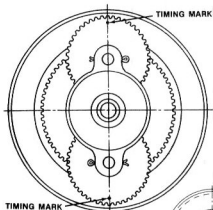

Fig. 1
- (A) Unscrew 4 screws on cover and remove cover.
- (B) Note the proper timing mark position of the two planet gears. See Figure 1 page 8.
- (C) Back-out the square head set screw to permit the pinion cage with the two planet gears to be pulled from the load shaft.
- (D) The two planet gears are removed by pulling the cotter pins and slipping the shafts from the gears.
**Reassembling:** Mount planet gears in pinion cage with cotter pins in place. Align set screw hole in pinion cage with the set screw hole in the drive shaft and time the planet gears as illustrated in Fig. 1 Page 8.